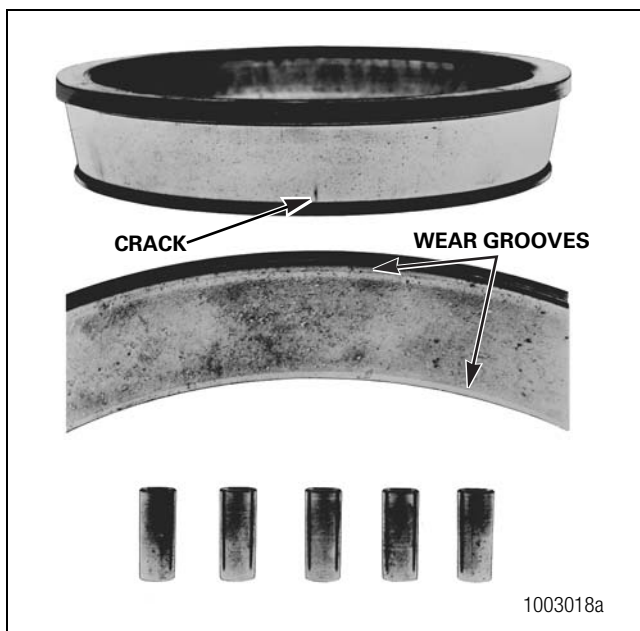

Figure 5.2
- You can see deep cracks or breaks in the cup, cone, and inner race or roller surfaces. Figure 5.2.